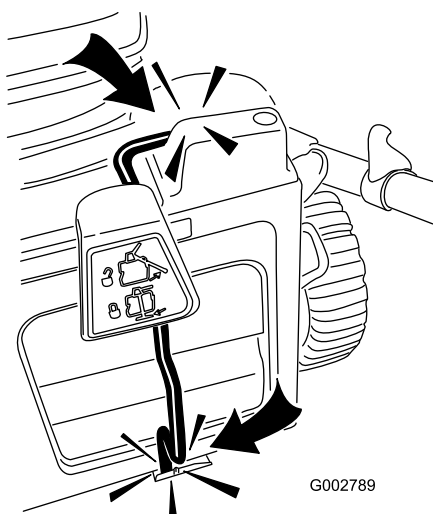

Figure 9
- Ensure that the lever snaps snugly into place in both the switch channel and lever retainer (Figure 9). **If they do not, your mower will not start!**